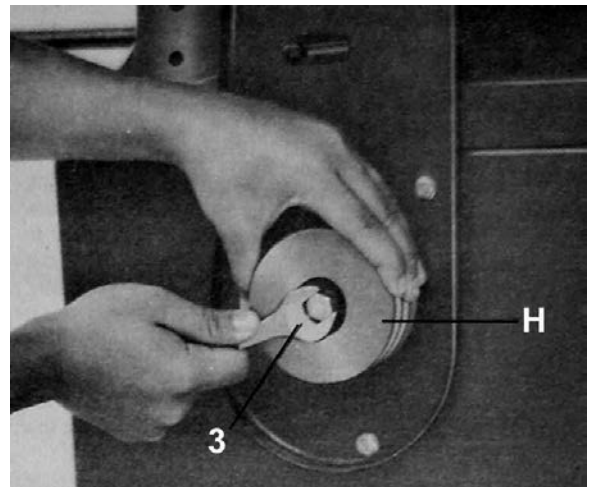

FIGURE 6
2. Assemble the motor pulley to the motor shaft with the key in place and tighten the hex. bolt in the motor shaft, as shown in Fig.6.